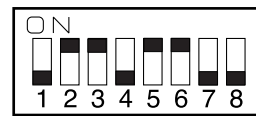

Figure 5-160
- 3) Set the DIP switch (SW1) on the ADF controller PCB as shown in Figure 5-160.